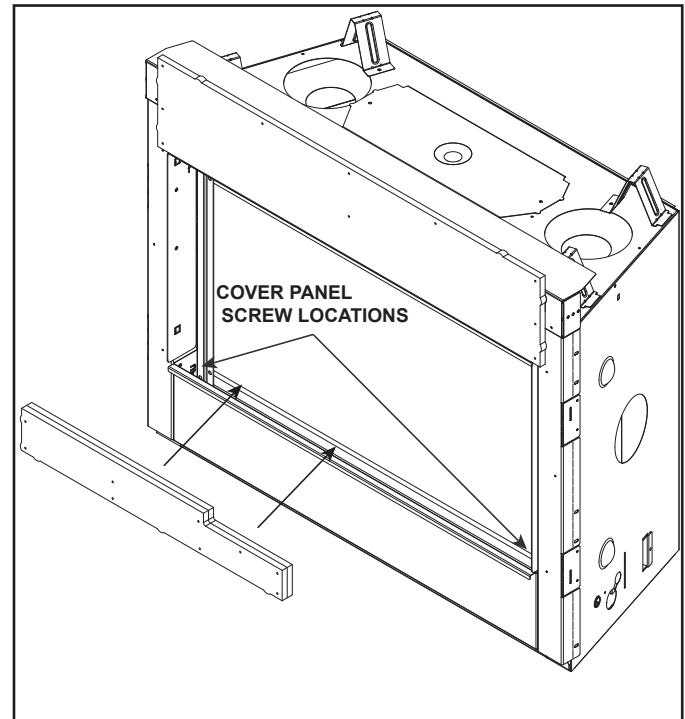
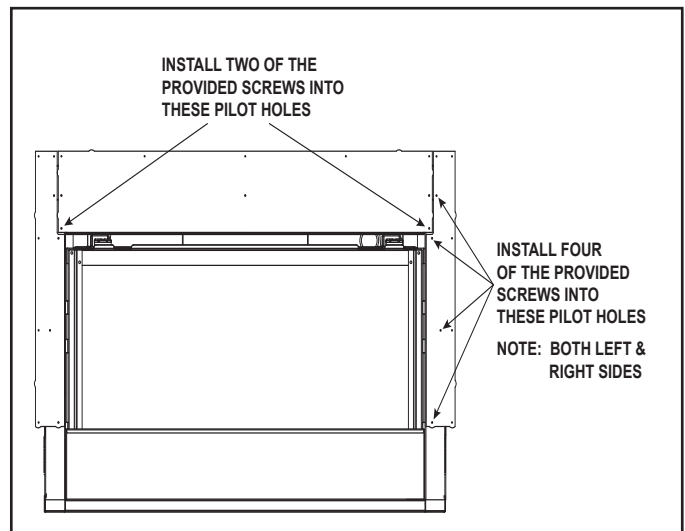

Figure 6.5 Shipping Position - Non-Combustible Sides
Figure 6.6 Installation of the Side Non-Combustible Components
This model ships with the required top, left and right non-combustible board. The top non-combustible board has been pre-installed at the factory with three screws. The left and right side non-combustible boards are shipped inside the appliance. See Figure 6.5.
4. Further secure the top non-combustible board by installing screws into the pilot holes located in the upper left and right corners of the top non-combustible board as shown in Figure 6.6.
- 5. Install the left and right non-combustible components with four of the provided Phillips screws. See Figure 6.6. After all non-combustible material has been installed, remove the small package of sheet metal screws from the manual bag. Reinstall lower cover panel and ensure it is “hooked” onto the appliance. Use the two screws from the package to fasten the top sides of the cover panel to appliance. The holes on the cover panel should align with the holes in the sides of the appliance. See Figure 6.5.